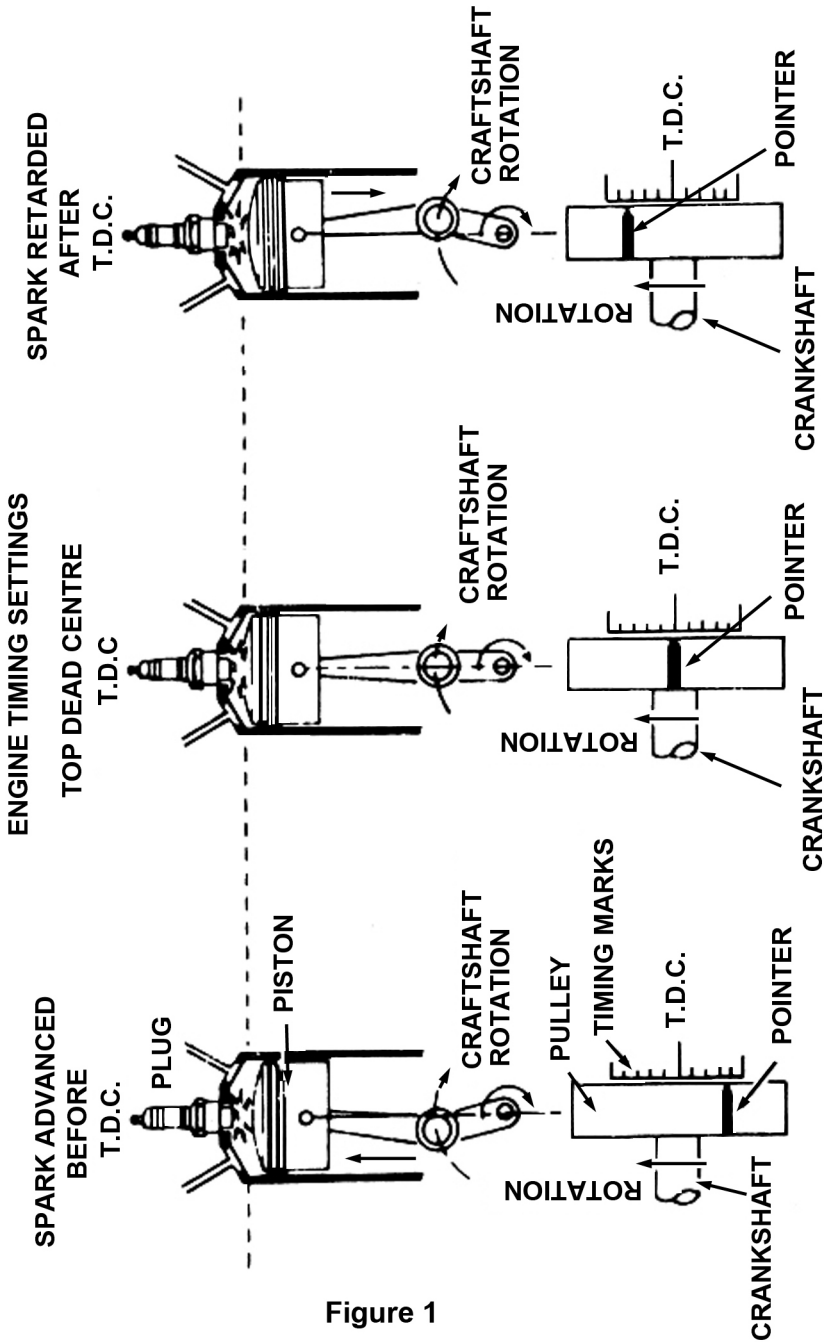

Figure 1
In order to completely burn the air/fuel mixture in the engine cylinders, most timing is such that the spark occurs at a point several degrees before top dead center (for example, 4° BTDC) to assure that full power of the explosion is obtained. See Figure 1 on page 4.
Two additional terms the engine manufacturers use when describing timing are "Advanced" and "Retarded". As shown in Figure 1, when the timing is advanced the spark will occur before the piston reaches the top of the engine cylinder (BTDC). On some late model cars equipped with various emission control devices, the timing is retarded so that the spark occurs after the piston has started to move down in the cylinder (ATDC). Engine timing is changed by adjustment of the ignition distributor.
In order to allow setting and adjustment of the engine timing, special "timing marks" are provided on each engine during assembly. In most cases, these marks appear on the engine vibration damper or fan pulley at the lower front of the engine. See Figure 1 on page 4. On some early engines, this mark was shown at the rear of the engine on the flywheel.
1. Locate the engine timing mark (see figure 1) and use a rag to clean all grease and dirt from the mark and the pointer. It may help to use chalk or white paint on the marks to make them more easily seen.